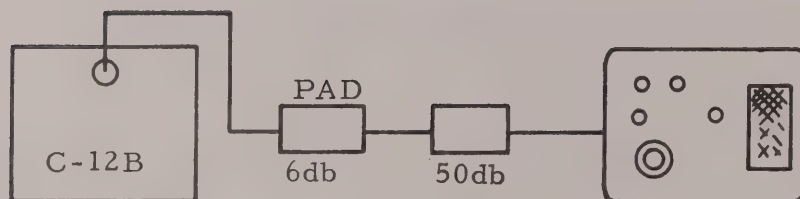

FIG. 2
(8) Set the RECEIVE SELECTOR to channel 9 crystal receive and rotate its associated trimmer. Note the VTVM reading and leave the trimmer set to a point midway between the bandpass peaks.
(9) Repeat step 8 for each receive crystal using the appropriate channel on the C-12B.
(10) Reinstall the 10455 KC crystal. Install a 6db / 50 db pad between the C-12B and the Executive. (figure 2)
(11) Using channel 9 crystal receive, apply sufficient signal on 9 from the C-12B to give 2 to 3 volts AVC as measured at the accessory socket ACC. Peak the 455 KC IF transformers for maximum AVC.
(12) Set the output of the C-12B for 3 volts AVC channel 9. Check the C-12B output on channels 8 and 10 by tuning them in on the receiver. Plus or minus .25 volts of channel 9 level is satisfactory.
(13) Return to channel 9 crystal receive and switch out 50 db of pad. Apply signal from C-12B on channel 8 and 10. The AVC reading should not exceed the level of channel 9 noted with the 50 db pad in the circuit.